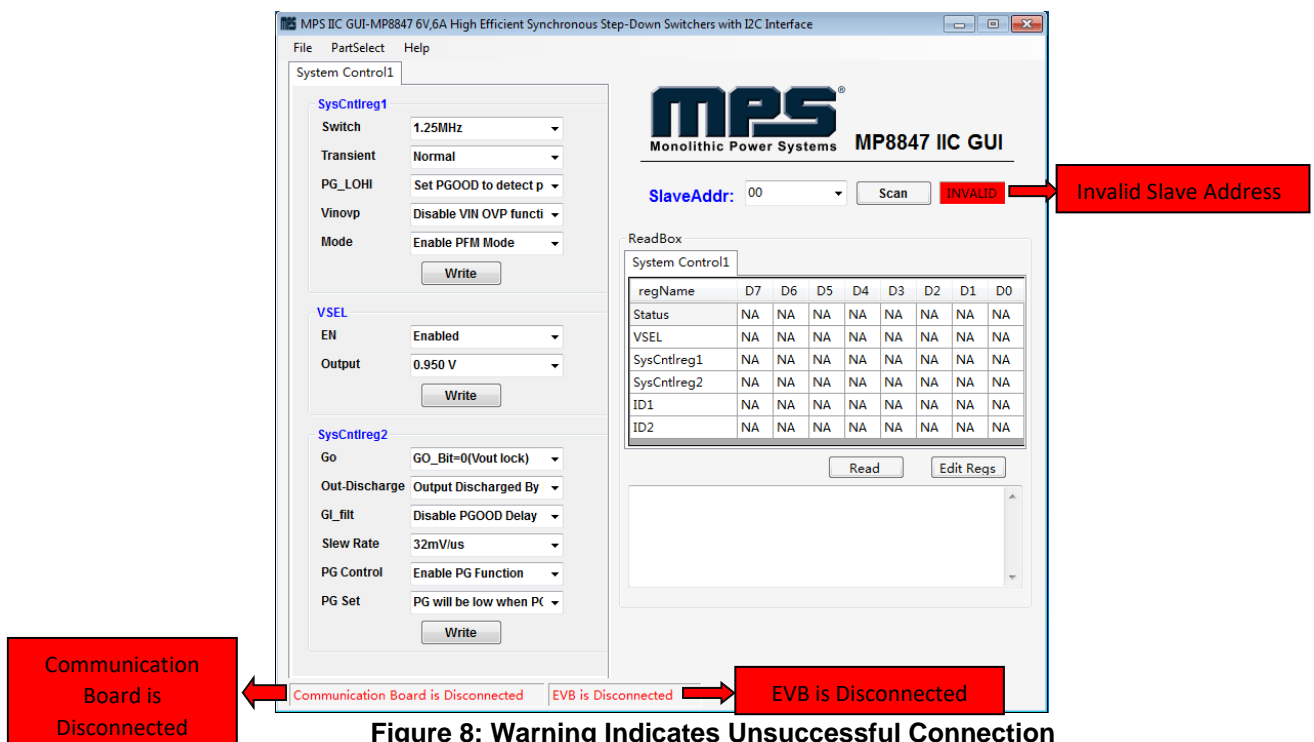

Figure 8: Warning Indicates Unsuccessful Connection
- If the connection is not successful, a warning will appear at the bottom. There are two warnings a user can expect (see Figure 8). Each of the warnings mean an invalid connection.